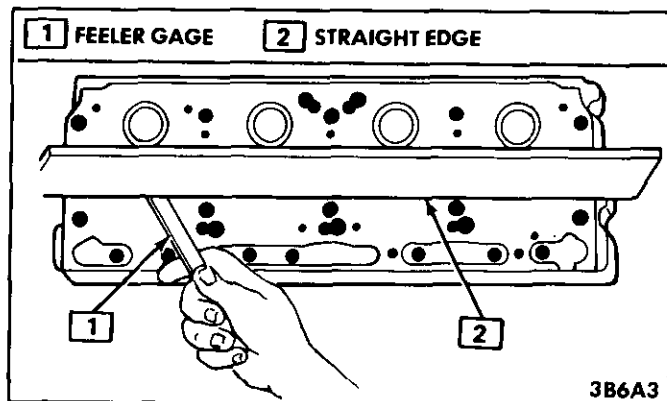

Figure 2 Checking Cylinder Head Flatness
4. Cylinder head deck, intake and exhaust manifold mating surfaces for flatness (Figure 2). These surfaces may be re-conditioned by parallel grinding. If more than .39 mm (.010") V6, or .152 mm (.006") V8 must be removed, replace the head.